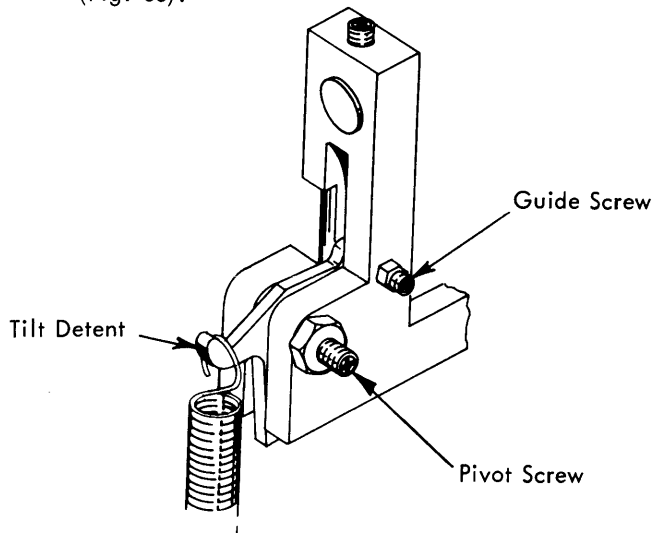

FIGURE 36. Tilt Detent Adjustment
5. Tilt Detent - Adjust the guide and pivot screw so that the tilt detent will operate freely with no side play (Fig. 36).